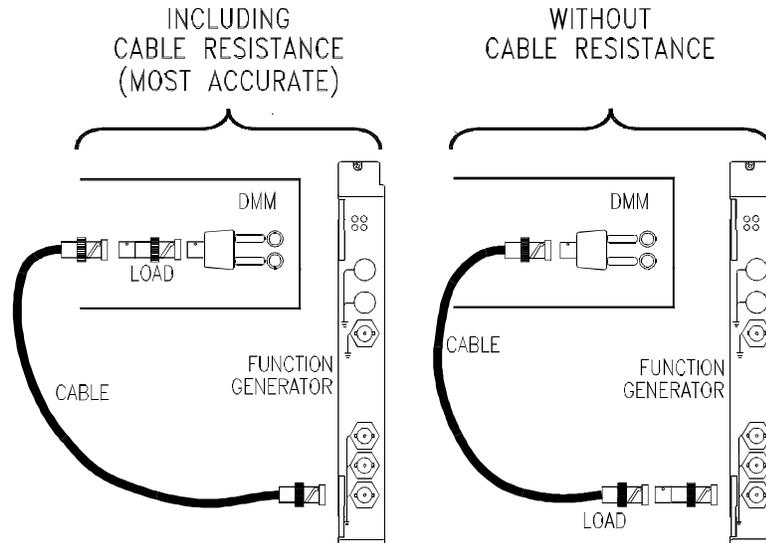

Figure D-3. AC Amplitude (50 Ohms) Adjustment Connection
4. Use the DMM to measure the function generator ACrms output voltage for SETUP 34 in the table on the next page. These adjustments use the 50 Ω load and cable measured in step 2 and connected as shown in Figure D-3.